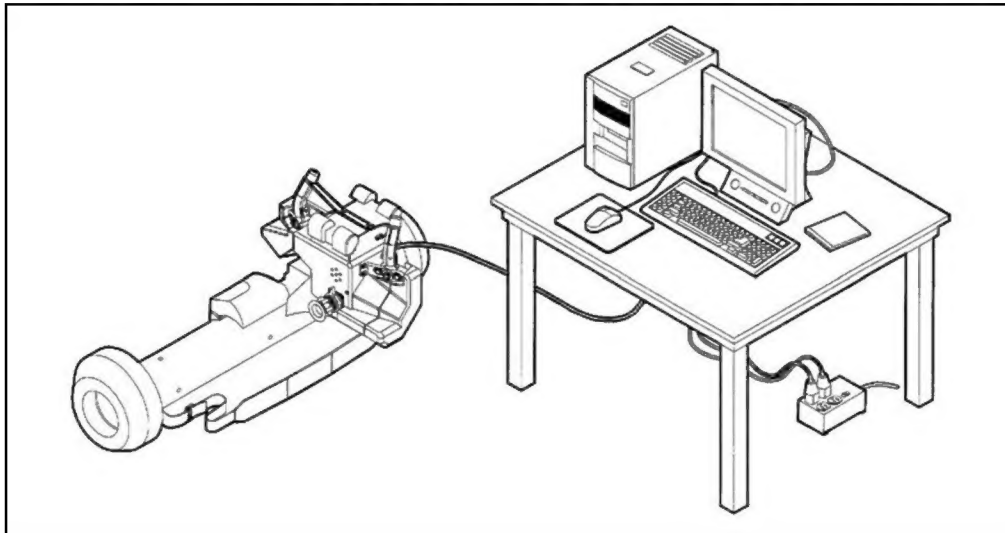

Figure 1-2. Basic skills trainer.
b. **Basic Skills Trainer.** The BST is an indoor training device that consists of a student station (SS) and an instructor station (IS) (Figure 1-2, page 1-2). The student